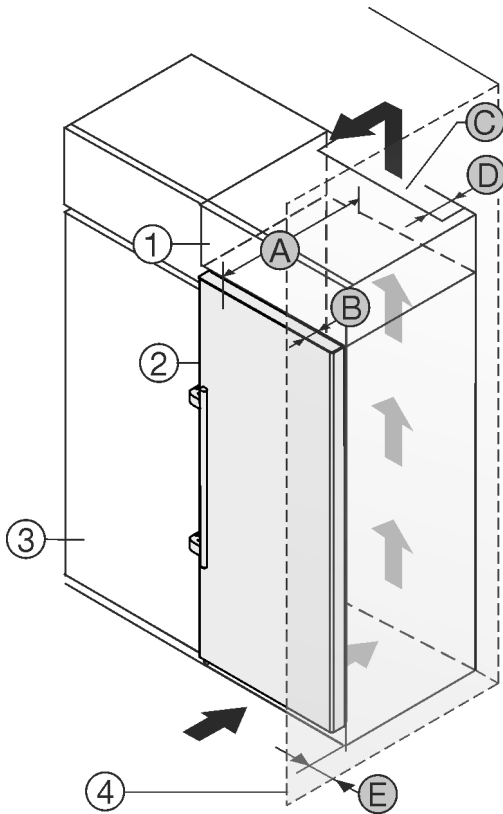

Fig. 2
- (1) Top cabinet\*
- (2) Appliance\*
- (3) Kitchen cabinet\*
- (4) Wall\*
- (A) Appliance depth\*
- (B) Door depth\*
- (C) Ventilation cross section\*
- (D) Distance to the back of the appliance\*
- (E) Distance to the side of the appliance\*
You can place the appliance directly beside the kitchen cabinet Fig. 2 (3)\*.
There must be a ventilation shaft at the depth Fig. 2 (D) of the back of the top cupboard over the entire width of the top cupboard.\*
The ventilation cross-section Fig. 2 (C) must be maintained under the ceiling.\*
If the appliance is set up with the hinges next to a wall Fig. 2 (4), the distance between the appliance and the wall must be at least 57 mm. This is how far the handle protrudes when the door is open.\*
In order to be able to fully open the door, the appliance must protrude by the depth of the door Fig. 2 (B) from the front of the kitchen cabinet. The appliance may protrude further depending on the depth of the kitchen cabinets Fig. 2 (3) and whether wall spacers are used.\*